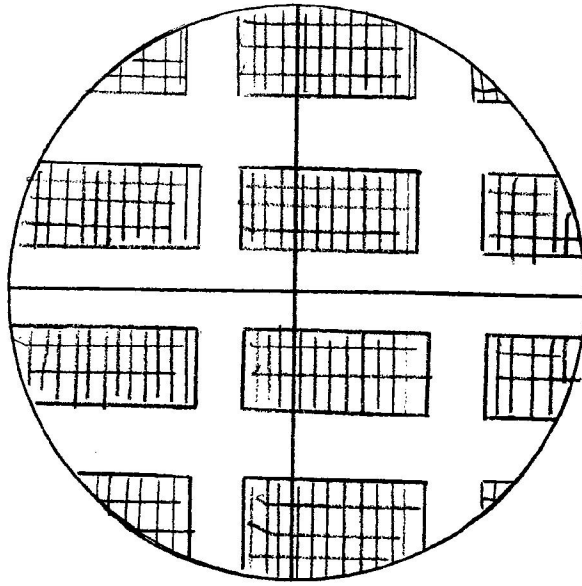

Figure 4-6. Wafer Properly Aligned in Y and Theta
- 11) Press ALIGN again and repeat steps 8, 9, and 10 until wafer is aligned. See figure 4-6.